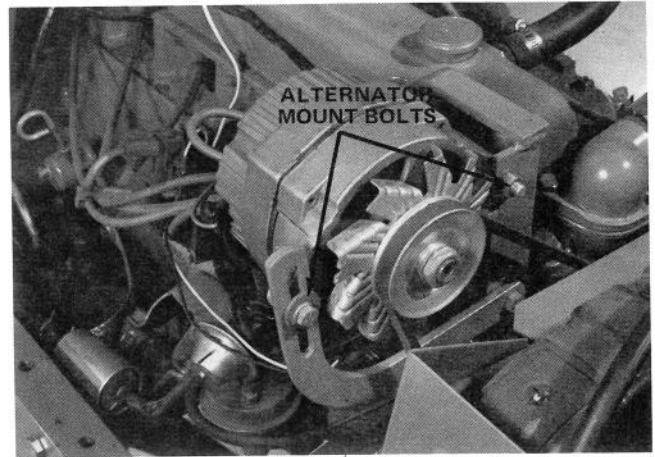

Figure 27
3. If belt deflection is inaccurate, loosen the alternator mounting bolts and rotate the alternator to attain the proper tension. (See Figure 27).